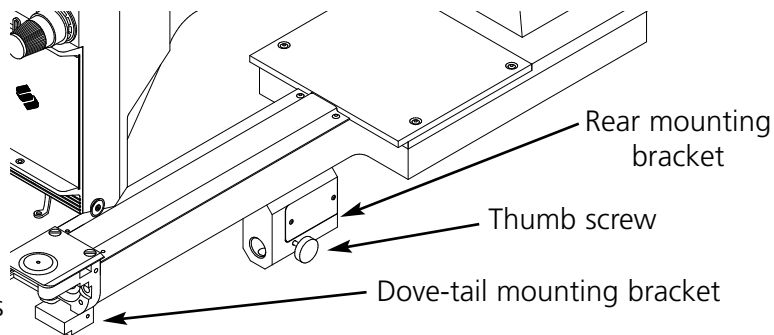

Figure 3-13
4. Under the cylinder arm, locate the cap frame mounting brackets (see Figure 3-13):